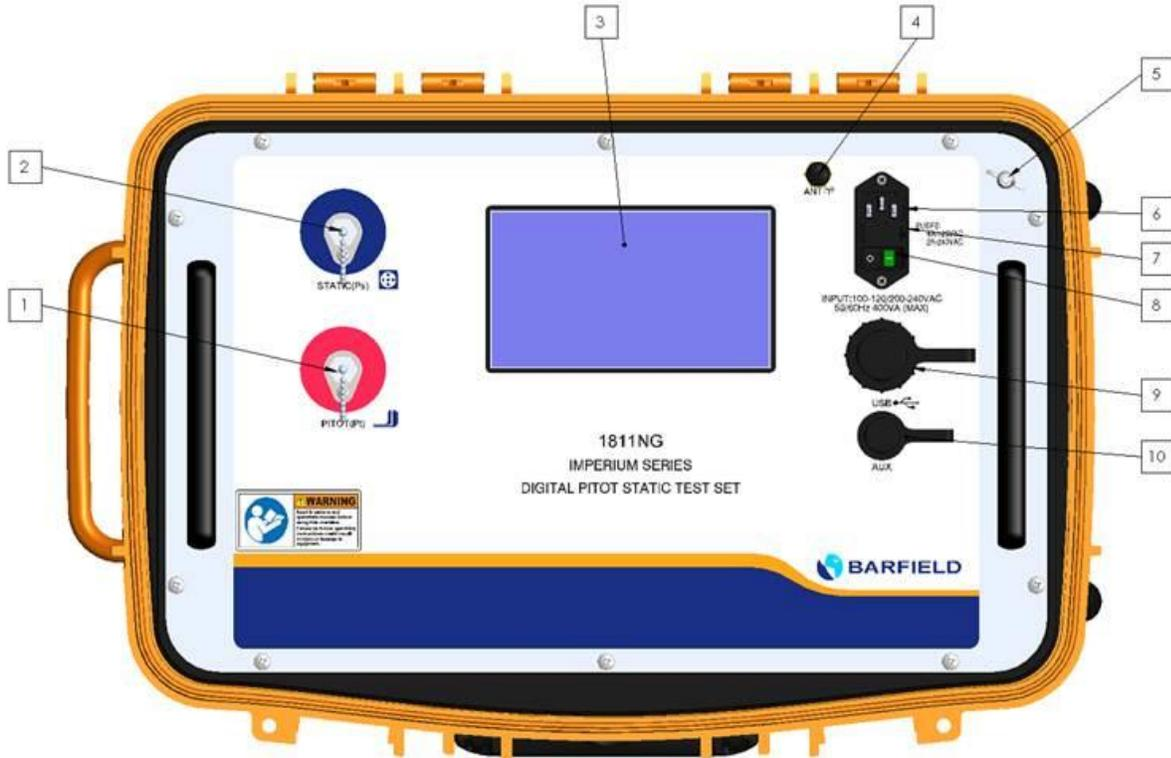

Figure 11 1811NG Front Panel
- B. The 1811NG chassis may be grounded to the aircraft or instrument under test using the Ground stud located in the upper right corner of the panel as depicted item 5 in Figure 11.
A. Front Panel Switches and Controls (Components shown in Figure 11).
Key to Figure 11: